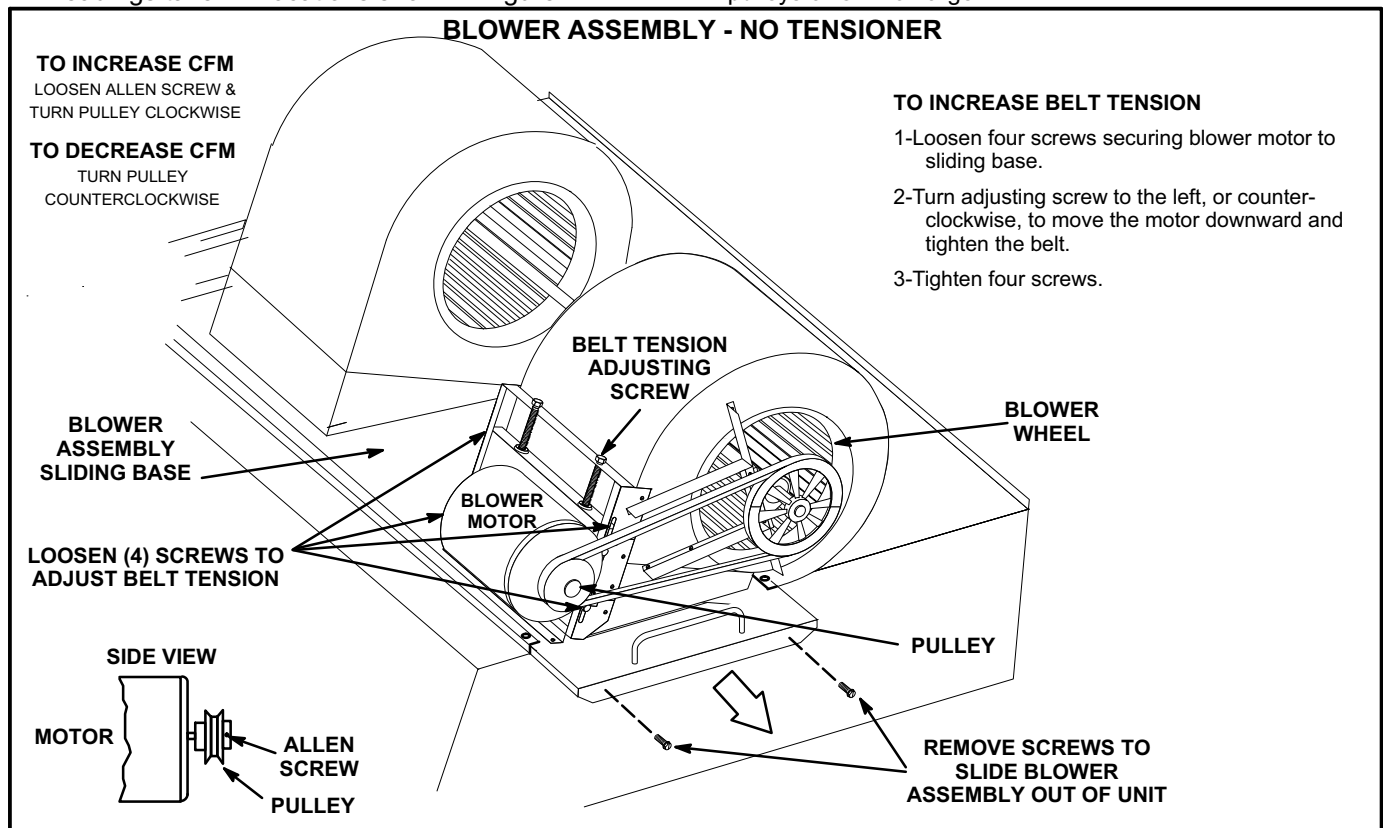

FIGURE 13
2- Remove screws on either side of blower assembly sliding base. See figure 13.
- 4- The blower RPM can be adjusted at the motor pulley. Loosen Allen screw and turn adjustable pulley clockwise to increase CFM. Turn counterclockwise to decrease CFM. See figure 13. Do not exceed minimum and maximum number of pulley turns as shown in table 3.
- 1- Loosen four screws securing blower motor to sliding base. See figure 13.